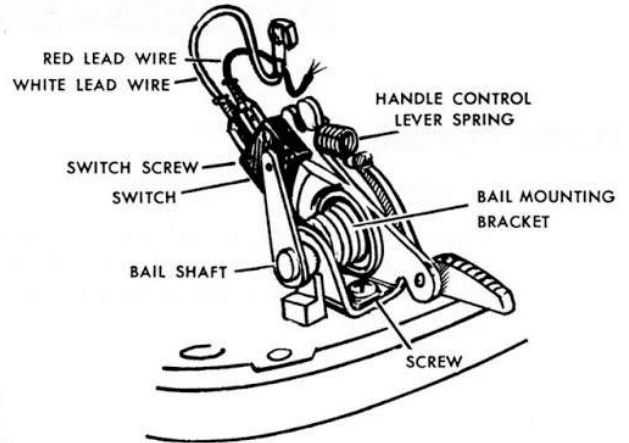

FIG. 3
- b. Remove (2) nuts, (2) washers and (2) screws. See FIG. 3.
- a. Remove screw shown in lower center of FIG. 3.